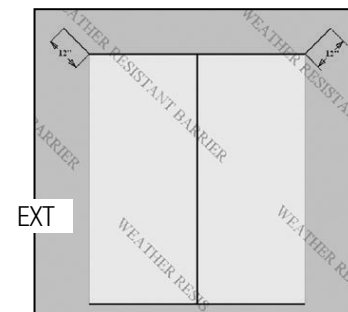

FIG. 2
- F) Cut the weather-resistant barrier (WRB) in a “Modified I” pattern. (Fig. 2)